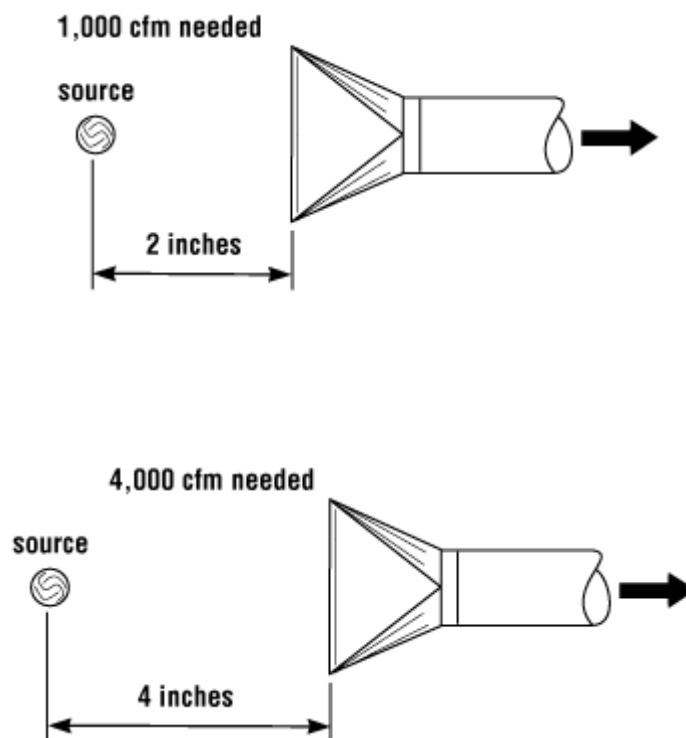

Figure 7
- The hood should be placed as close as possible to the source of contamination, preferably enclosing it. The more completely enclosed the source is, the less air will be required for control. The required airflow rate varies with the square of the distance from the source as shown in Figure 7.